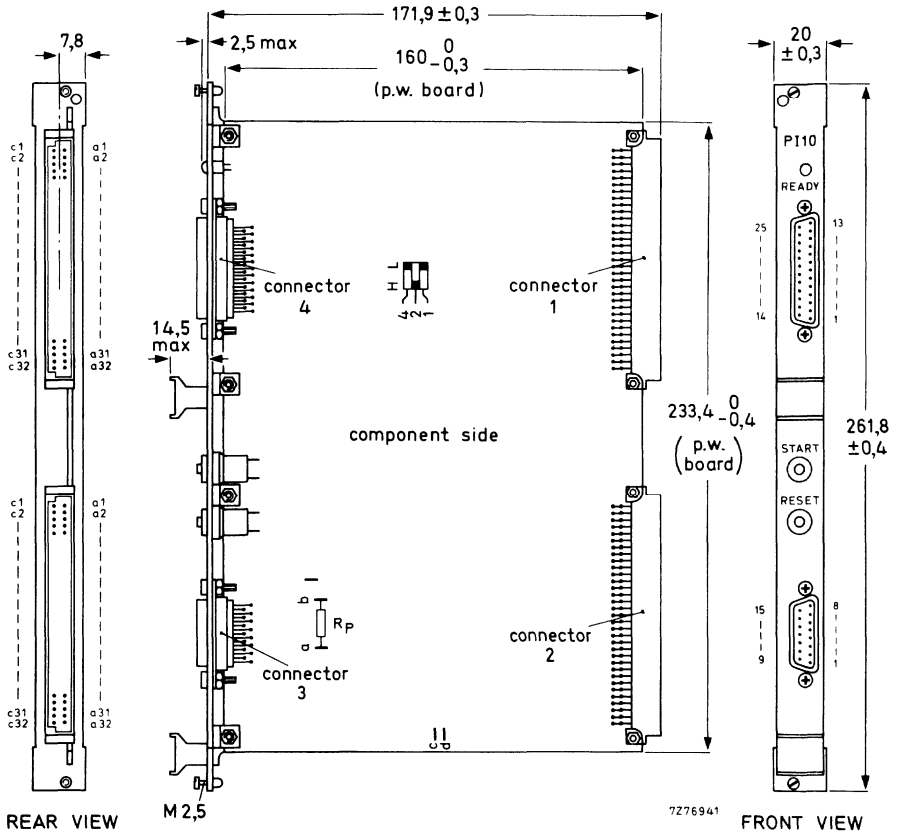

Fig. 5.
* When points "c" and "d" on the PC board are not interconnected (see Fig. 5), the module supplies an even parity. With a short-circuit bridge across these points an odd parity occurs.